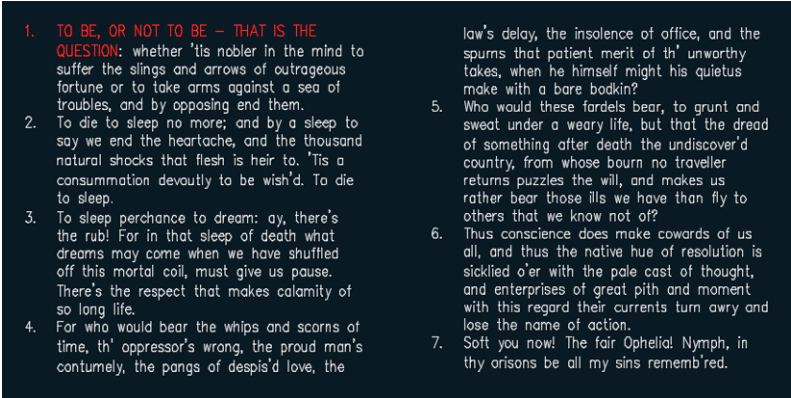

FIGURE 10.16 The result after resizing the column length and deleting the rectangle
3. The left column is too short compared to the right column. Move the Column Height (bottom) grip down until the text in both columns is roughly equalized. Press `Esc` to deselect the text. Select the rectangle, and press the `Delete` key. Figure 10.16 shows the result.